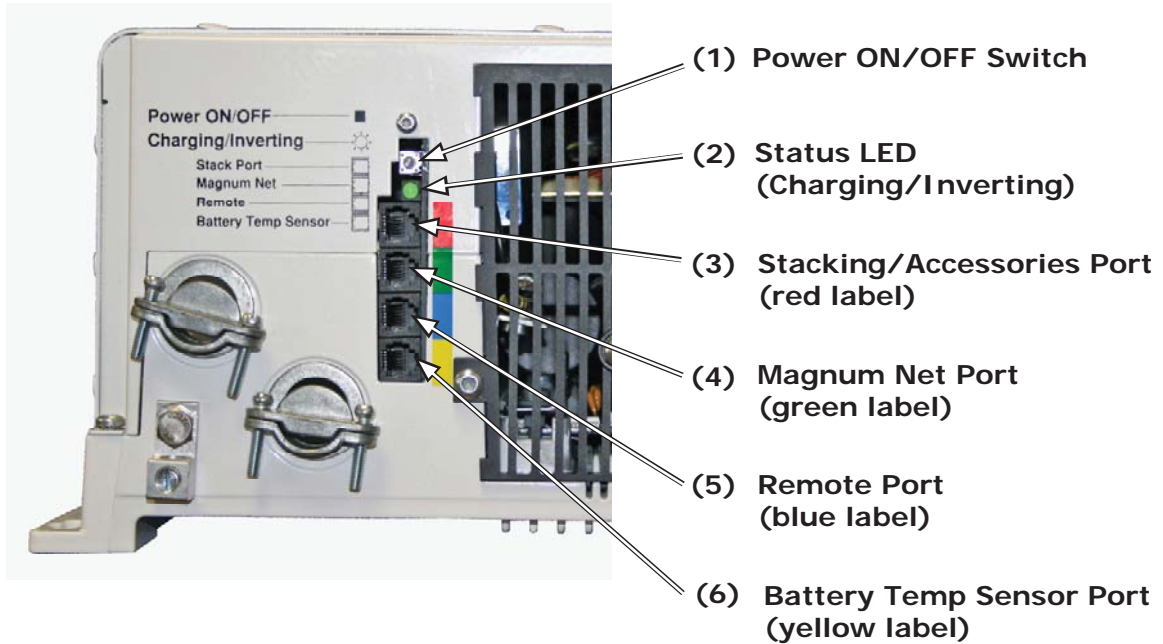

Figure 1-1, Power Switch, Status LED and Accessory Connection Ports
The front of the MS Series is equipped with the following features (see figures 1-1 and 1-2):
Info: If the inverter is installed in an area where moisture may occur, we recommend putting silicone dielectric grease compound into the electrical ports (items 3 to 6 as shown in figure 1-1). Before installing the cables or if leaving any ports open, squirt a liberal amount into each port. Silicone dielectric compound makes an effective moisture and corrosive barrier to help protect and prevent corrosion to the RJ11 connections.